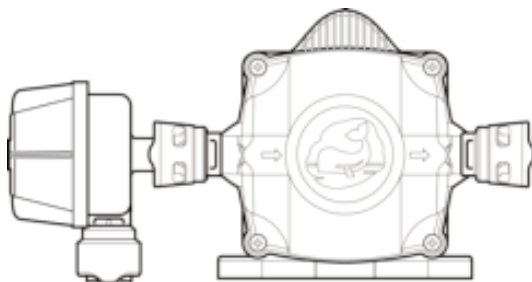

Fig 4 - Attach Strainer to Pump Inlet
- Check pump flow direction (as indicated on pump body) and ensure that a strainer (supplied with retail pump) is attached to the pump head inlet (Figure 4).